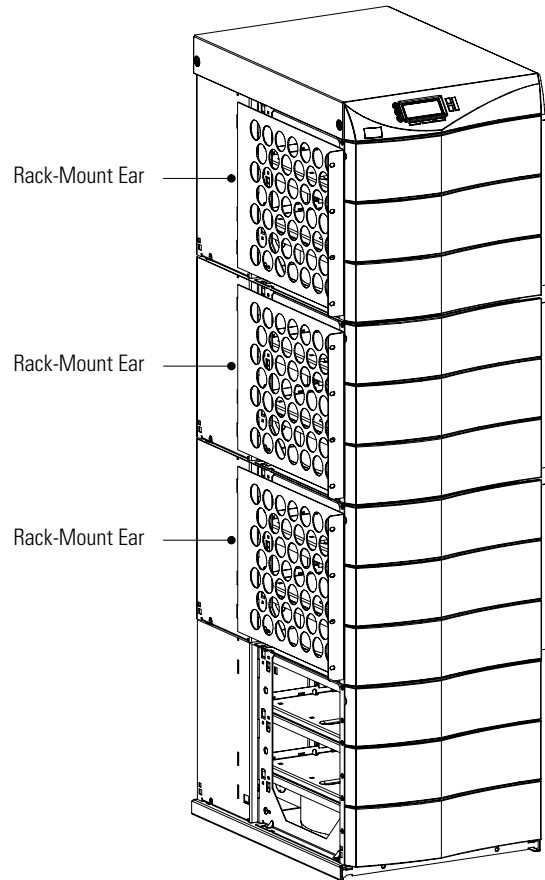

Figure 2. Rack-Mount Ears Installed
5. Install two rack-mount ears (three for 12-slot cabinets) on each side of the cabinet (see Figure 2).